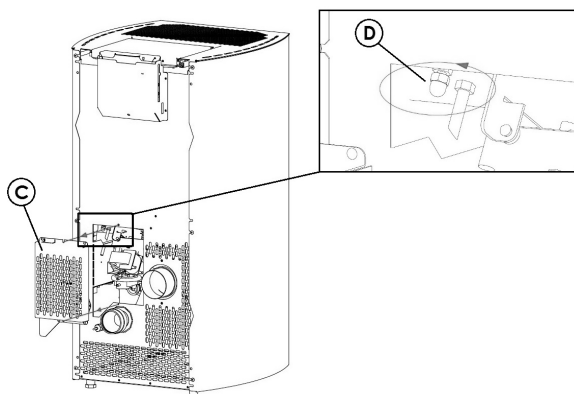

Fig. 44 - Casing removal
- Remove inspection casing "C" from the back of the stove (see **Fig. 44**).